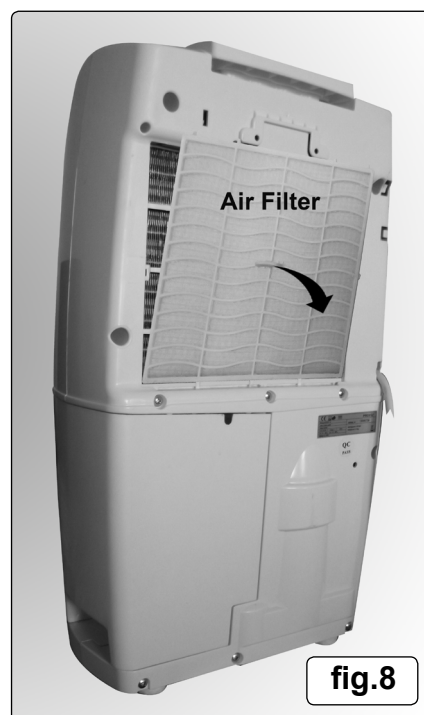

fig.8
5.1.2. To remove the filter, pull the central handle and spring out, as in fig.8.